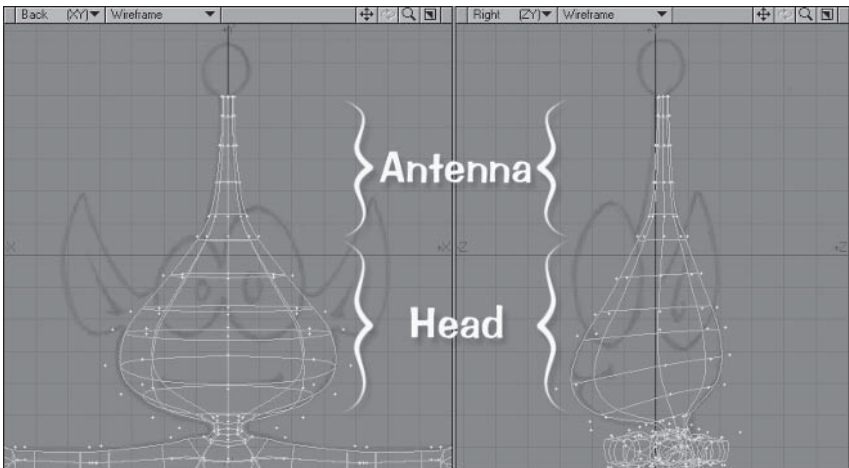

Figure 3.3-2. Extending the head and antenna.
2. The initial stage of creating the head is just a series of Extends, making sure there are enough segments to support the features. **Extend** and **Move** six times, placing the second row at the mouth, the fourth row where the ears start, and the sixth row at the top of the smaller eye in the front backdrop. As you extend, **Stretch** each row to conform to the front and side backdrops. Use Figure 3.3-2 as a guide to position each row of points.